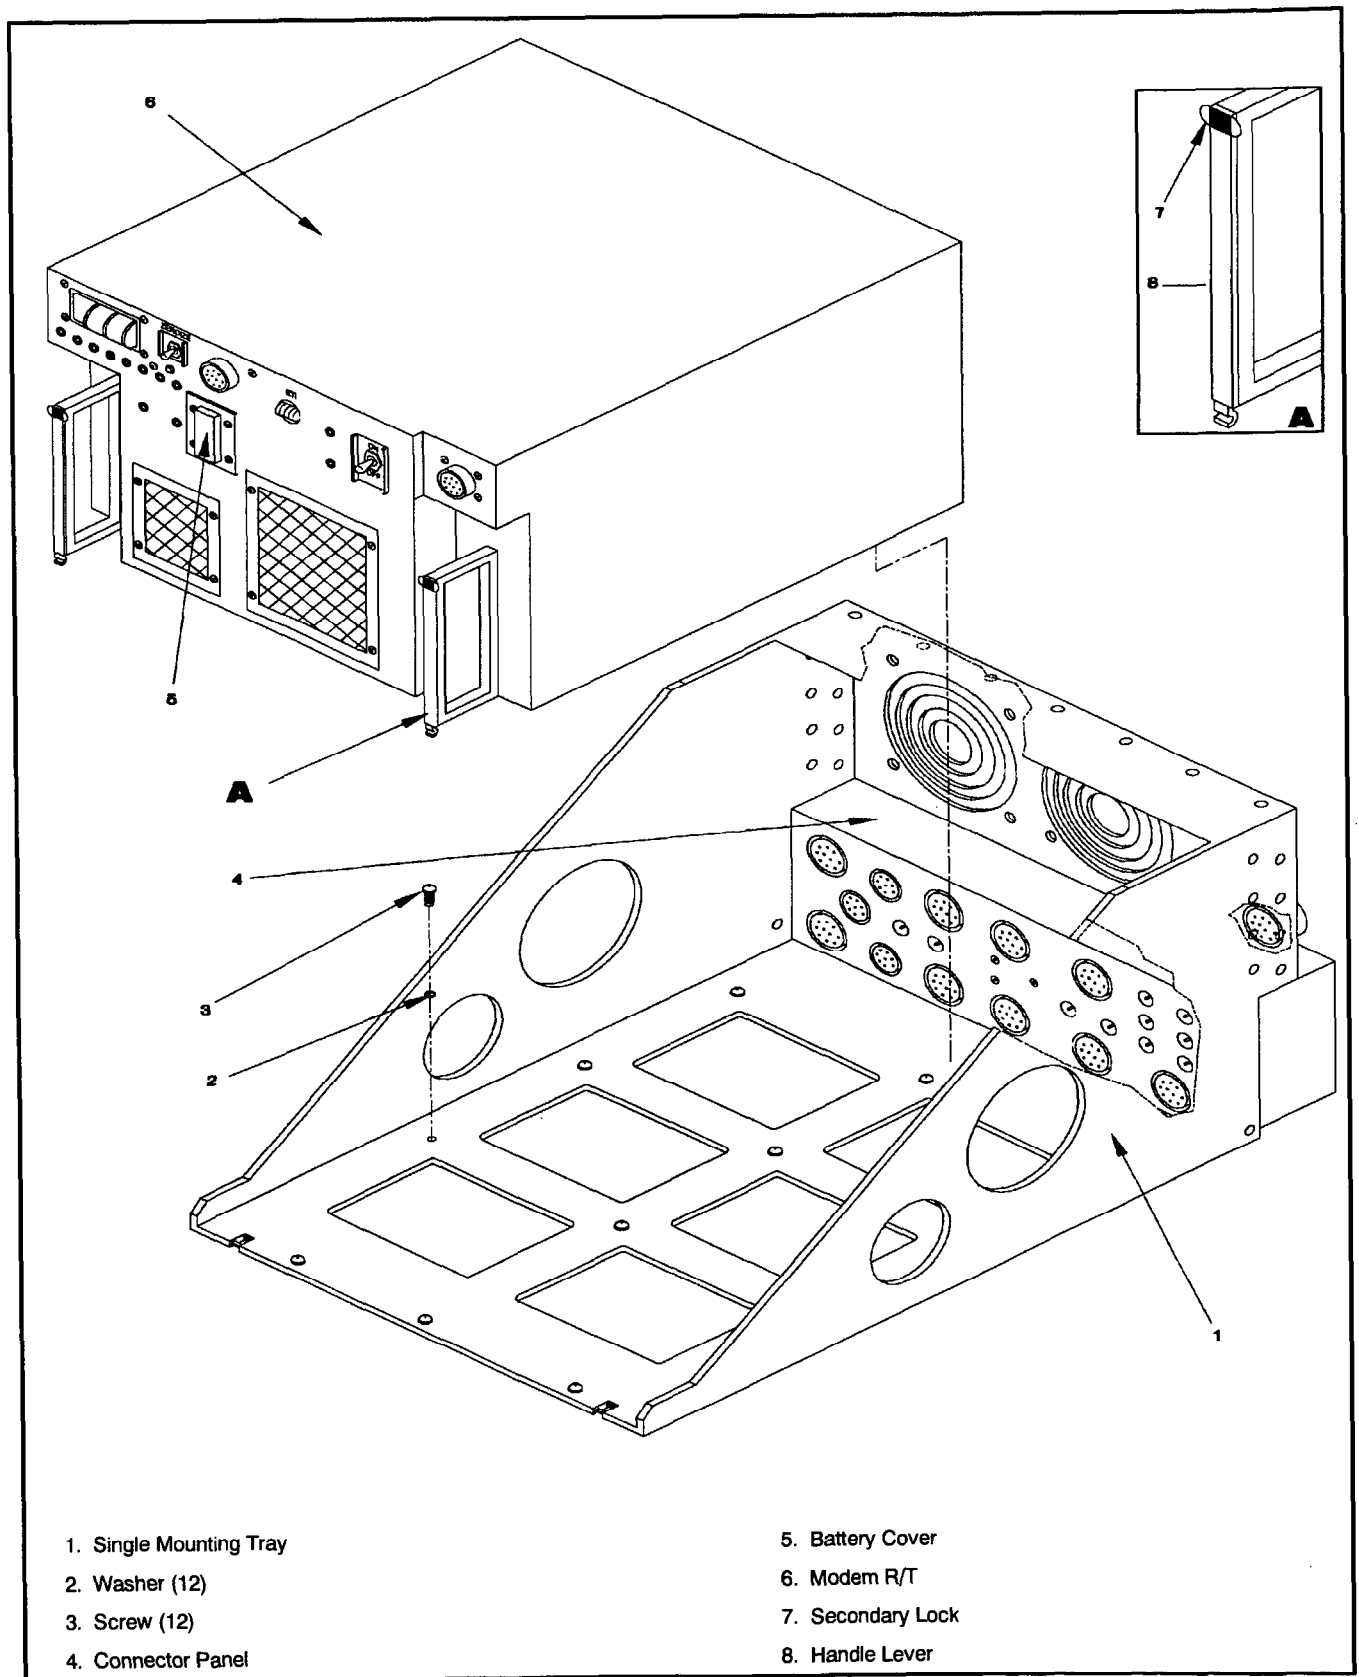

Figure 1. Removal and Installation of Communications Set Modem MD-1294/USC-42(V)
i. Place the shipping panel in the TRANSEC CCA 1A3 slot. Tighten two captive fasteners (3) to secure shipping panel to Modem R/T chassis.
j. Replace Modem R/T top cover (1). Tighten 22 screws (2) to secure top cover to Modem R/T.
8. INSTALLATION. (figure 1).